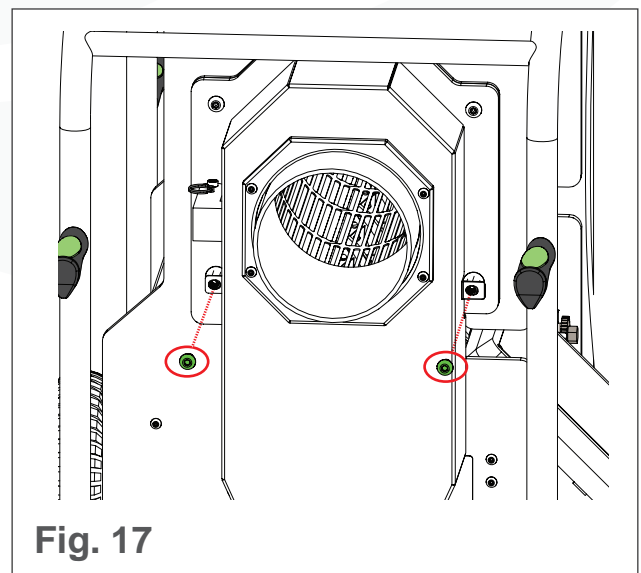

Fig. 17
1. Remove the two tumbler belt cover screws (see Fig. 17).